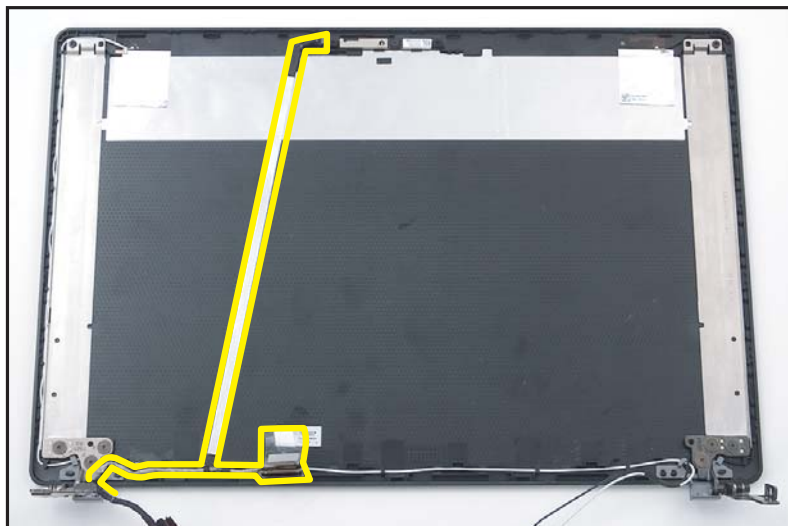

Figure 1-61. eDP Cable Removal
2. Unroute the eDP cable from the cable guides and remove it from the LCD cover (Figure 1-61).